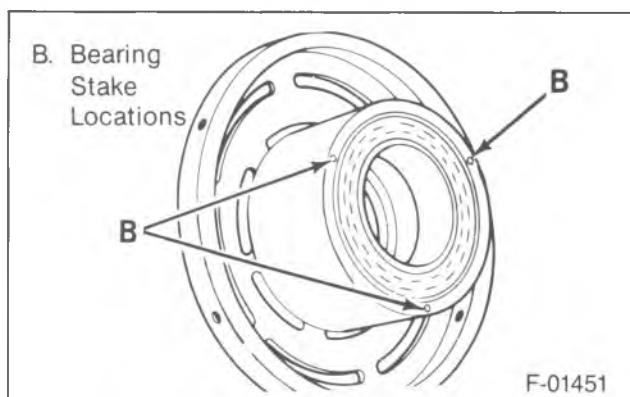

Figure 12—Staking the Rotor Bearing
- Using a center punch with a 45 degree angle point, stake 1.1-1.4 mm (0.045-0.055-inch) deep the bearing in three places 120 degrees apart (figure 12).